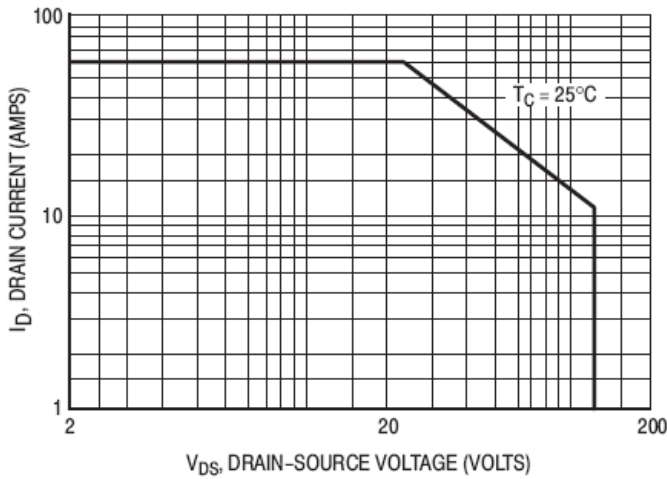

Figure 4. DC Safe Operating Area
- T1 — RF Transformer, 1:25 Impedance Ratio. See M/A-COM Application Note AN749, Figure 4 for details.